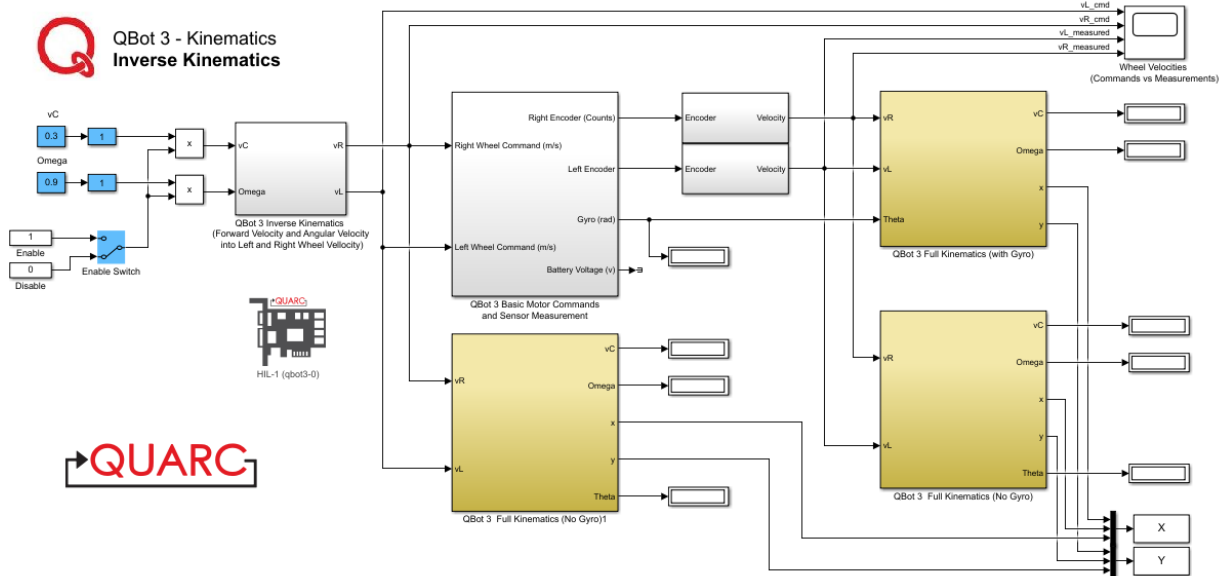

Figure 2.2: Snapshot of the controller model QBot3\_Inverse\_Kinematics.mdl
The QUARC model for this exercise is called `QBot3_Inverse_Kinematics.mdl` and is shown in Figure 2.2. In this model, the Inverse Kinematics block for the QBot 3 is shown in yellow and the input commands for  $v_C$  and  $\omega_C$  are highlighted in blue.
1. Wait until the QBot 3 has fully initialized (you should hear the QBot 3 start-up chime), then enable the movement of the robot using the manual switch shown in Figure 2.2.